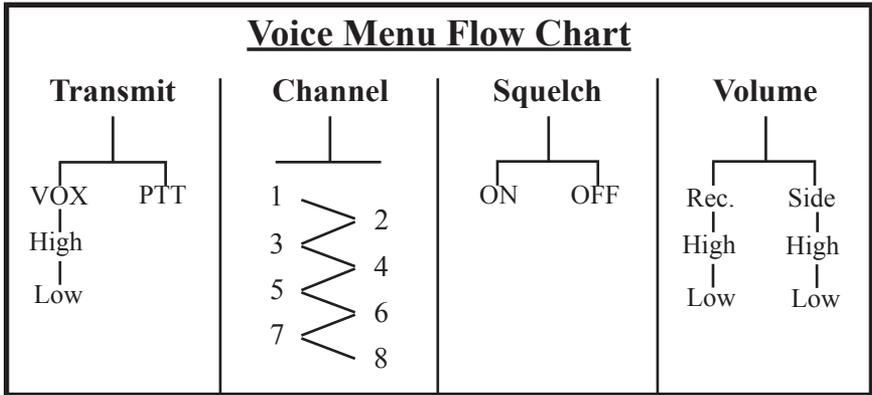

Figure 3. Voice menu flow chart
3.3.1 VOICE ADJUSTMENT MODE: The SSB-1001B and SSB-2010 have a unique feature that allows you to adjust the unit electronically either out of or in the water. If you depress the PTT button twice within one second, the transceiver enters a “Voice Adjustment Mode.” You will hear in your earphones a voice offering you the choices *“Transmit, Channel, Squelch, Volume.”* This message will continue until you make a selection by pressing the PTT button once when you hear your desired option. When completing your adjustments, you have the option to double- or triple-press the PTT button quickly. A double-click will directly exit the “Voice Adjustment Mode.” Your transceiver will be in the receive mode. A triple click will tell the transceiver to play back all settings in your earphone. You can triple-click at any time if you want to know all your settings (Fig. 3).